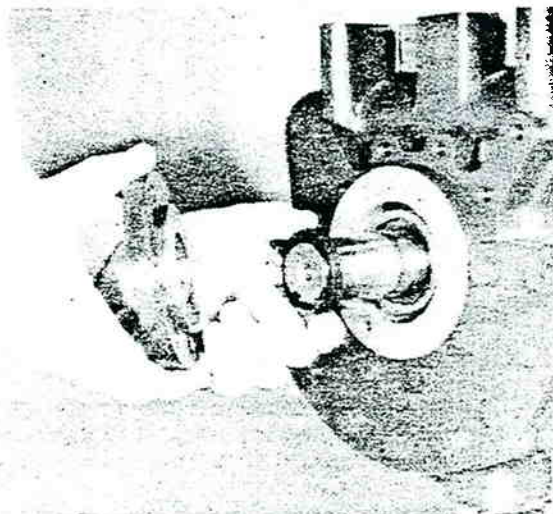

Figure 16-33: Removing Shaft Seal Cover and Carbon Washer
15. Remove six capscrews and remove shaft seal cover and carbon washer (figure 16-33).